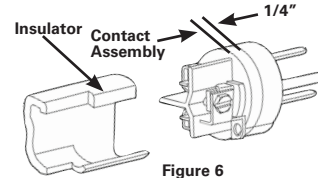

Figure 6
- Slide insulator/cord clamp down cord and position over terminals. The insulator has 2 slots that engage with the arc barrier walls and provide proper orientation. Take care to align insulator properly, then slide insulator to within 1/4" of surface of contact assembly. (See Figure 6)